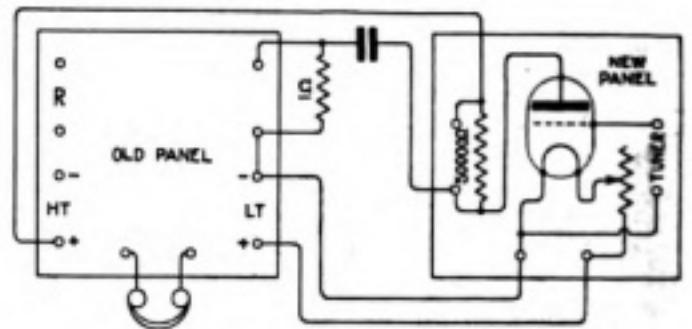

Fig. 7.
(1) The connections for a L.F. amplifier are exactly the same as for a H.F. amplifier of this type, but larger values of coupling condenser, say 0.0005 mfd., and smaller values of grid leak, say 1/2 megohm, are suitable. (2) See diagram (Fig. 7).